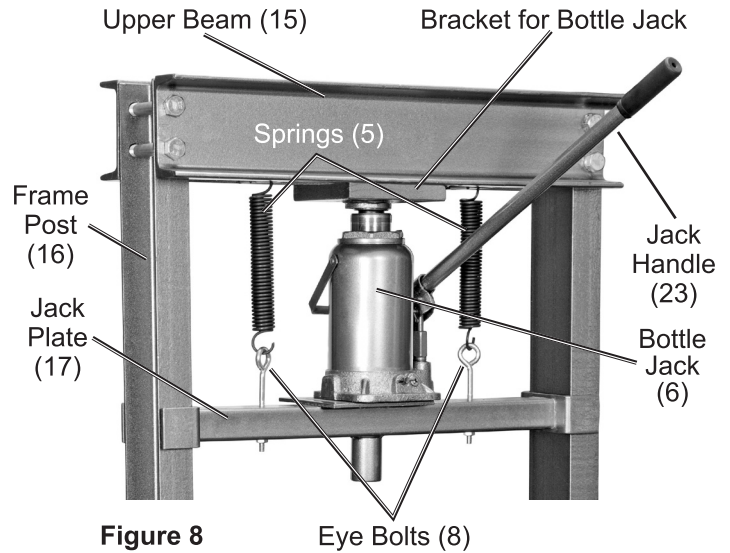

Figure 8
9. Bleed the Bottle Jack (6) (see Bleeding the Bottle Jack section) and make sure it is fully collapsed. Place the Bottle Jack on the center of the Jack Plate (17), align it with two mounting holes in the Jack Plate and secure with two Bolts (7). Slide the Jack Plate up the Frame Posts (16) so the Bottle Jack Saddle fits in the bracket on the center underside of the Upper Beam. Hook the Springs into the Eye Bolts (8) on the Jack Plate to secure the Bottle Jack/Jack Plate in place. See Figure 8.